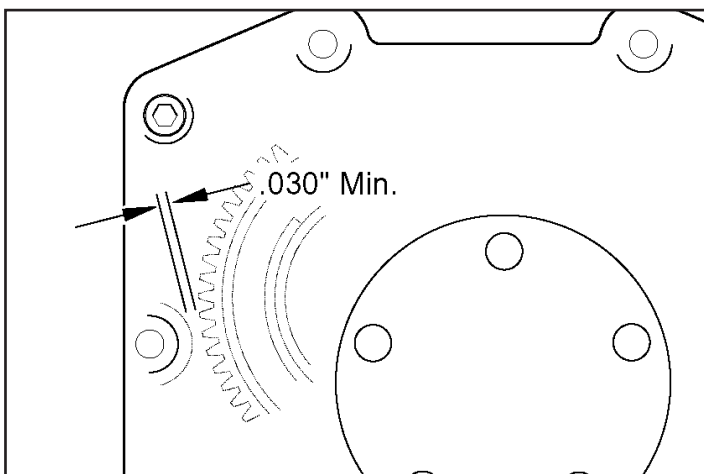

Figure 3
20. Press a small amount of kneadable clay or putty on the cam cover mounting boss shown. See Figure 3 below. Carefully hold the cover and cover gasket in the position against the crankcase. Install mounting bolts (4) near the corners of the cover finger tight. Push or tap the cam cover towards the engine.